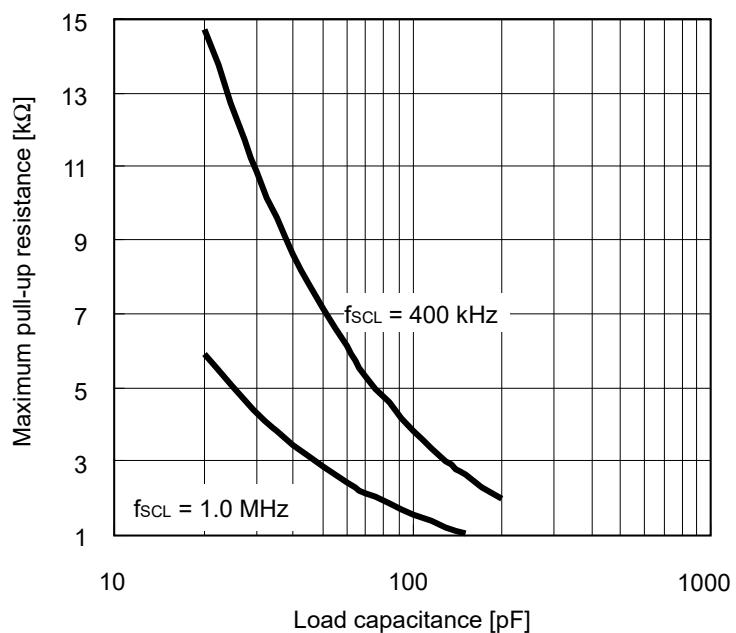

Figure 11 Output Load
*1. Since the output form of the SDA pin is Nch open-drain output, the SDA output delay time is determined by the values of the load resistance and load capacitance outside the IC. Figure 11 shows the relationship between the output load values.